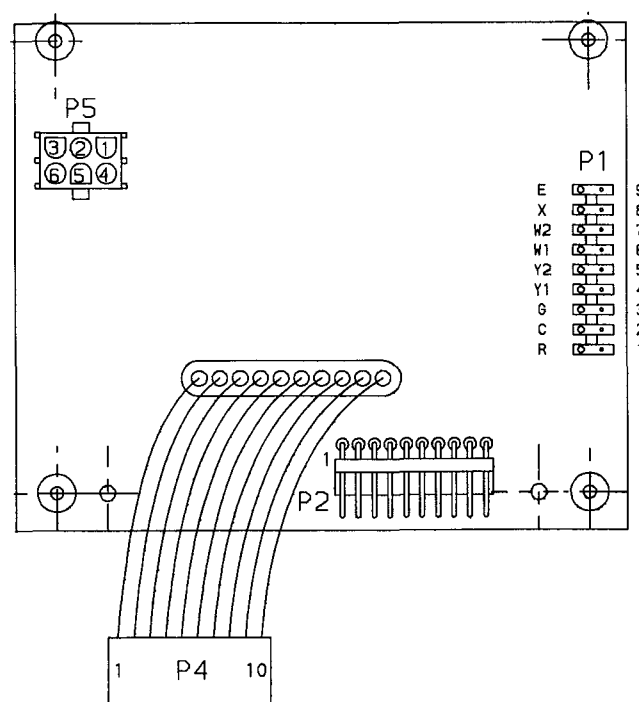

**Fig. 35 — Economizer Board**
2. Check continuity between points shown below. (See Fig. 35 for identification of points on the board.)